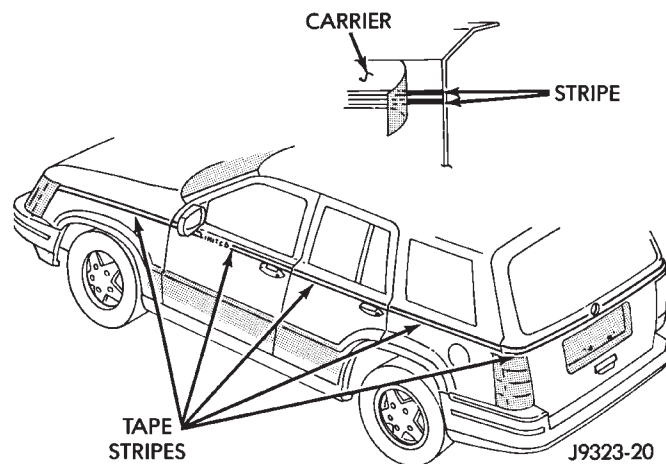

Fig. 29 Tape Stripes
(1) With backing still in place, position stripe across panel to receive the stripe. Apply masking at top of stripe to hold it in position.
(2) Mark outside edge of panel on stripe with grease pencil.
(3) Trim stripe to within 17 mm (0.750 in.) of out-line marks.
(4) Spread stripe across a smooth flat work surface, stripe side down.
(5) Peel paper backing away from stripe exposing adhesive backing of stripe.
(6) Apply soap solution liberally to adhesive backing of stripe.
(7) Apply soap solution to body panel surface.
(8) Place stripe into position on body panel (Fig. 29). Smooth out wrinkles by pulling lightly on edges of tape stripe until it lays flat on panel surface.
(9) Push air pockets from under tape stripe to perimeter of panel from center of the tape stripe out.
(10) Remove air bubbles from under tape stripe using a body putty squeegee.